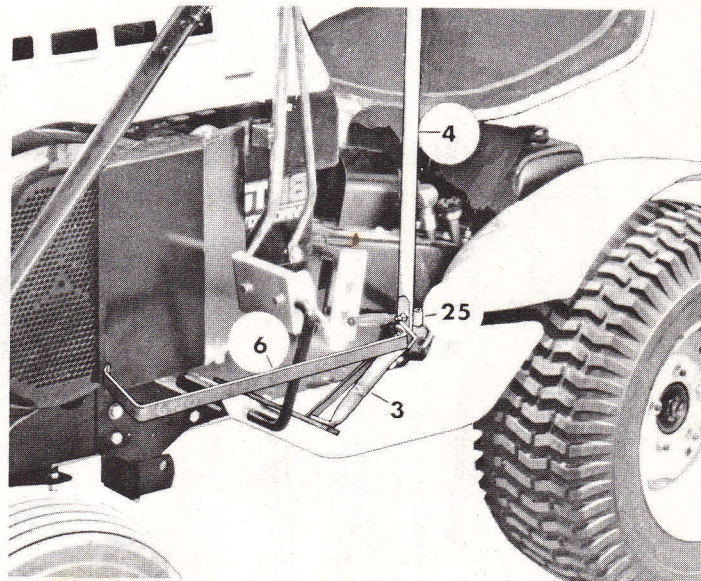

FIGURE 5
**STEP 5: SEE FIGURES 5 & 6:**